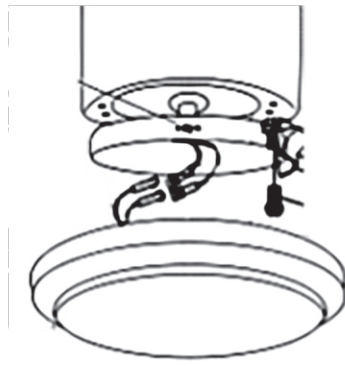

Fig8
13.3. Carefully insert the glass into the protrusion on the end of the light, as shown in fig 8